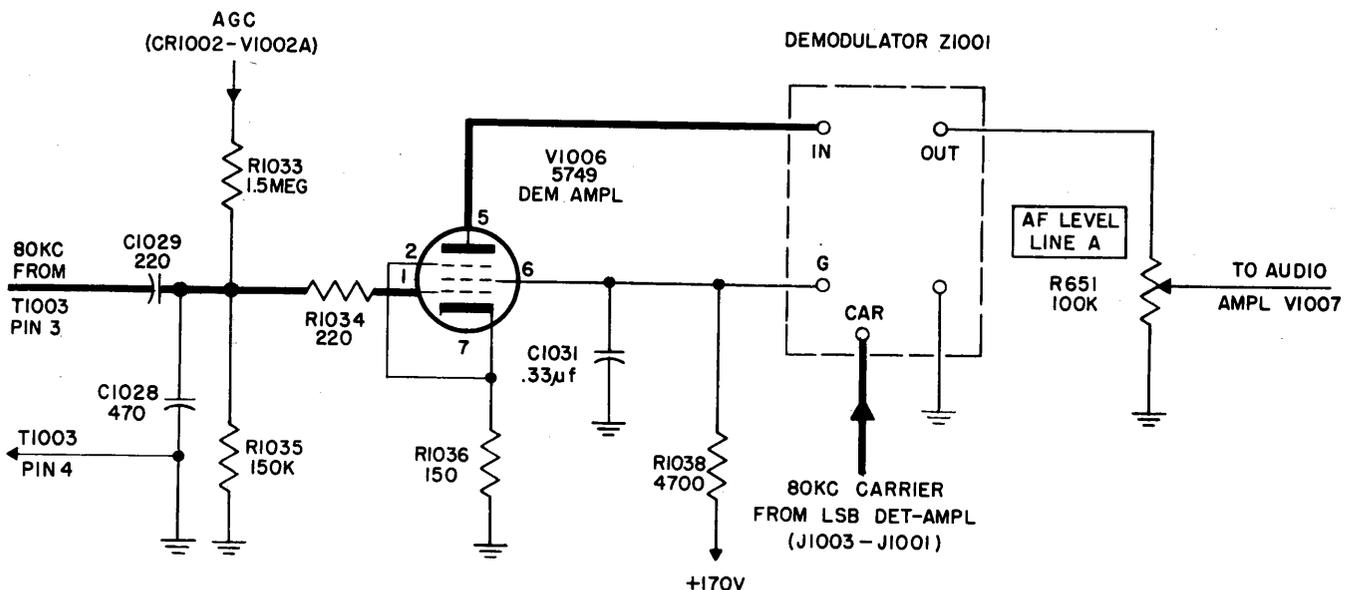

Figure 4-29. Demodulator Amplifier V1006 and Balanced-Ring Demodulator Z1001, Simplified Schematic Diagram
FL1001 has an operating range of 76 kc to 79.7 kc, which has the false appearance of LSB operation because of the inversion of frequencies in the first frequency conversion. Here the HF oscillator operates at a frequency higher than that of the incoming signal. Since the original USB signal is the sum of the carrier and upper sideband, the mixing process results in a difference frequency that is lower than the 80 kc IF by the modulation components of the original USB signal. The original signal represented a carrier plus a modulation component; the converted signal represents an intermediate frequency minus that component. There is no inversion in the second and third conversions, because their local-oscillator frequencies are lower than the signal frequency; therefore, these conversions do not counteract the inversion of the first stage, and filter FL1001, with a bandwidth of 3.7 kc, is made to pass a band of frequencies covering 79.7 kc minus 3.7 kc. The output of FL1001 is applied to IF amplifier V1005, which develops an output across IF transformer T1003. The output at pin 3 of T1003 is applied to demodulator amplifier V1006 (figure 4-29) and to the AGC circuit
d. DEMODULATOR AMPLIFIER V1006, BALANCED-RING DEMODULATOR. (See figure 4-29.)—Demodulator amplifier V1006 receives its signal from IF amplifier V1005 by way of transformer T1003 and capacitor C1029. The plate load of V1006 is in balanced-ring demodulator Z1001, which, in addition, detects the USB IF signal. A second input to Z1001 is the 80 kc carrier from carrier amplifier stage V1104 of the lower-sideband detector-amplifier. Combining the two inputs in Z1001 results in outputs containing original frequency and difference frequency components. Z1001 by-passes all but the difference frequency and applies it to audio amplifier V1007 by way of A.F. LEVEL LINE A potentiometer R651.